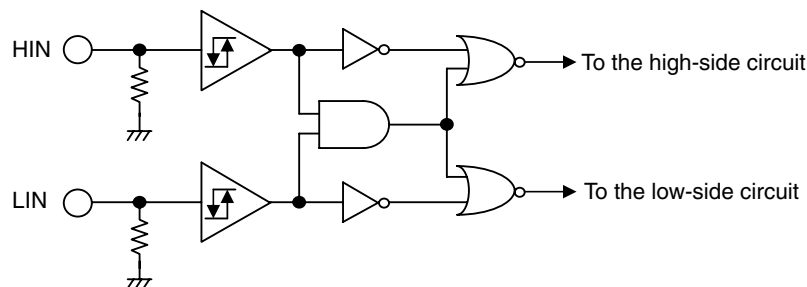

Fig. 5 Circuit for Prevention of Simultaneous Turn-On of High/Low-side Devices
When HIN = LIN = “high” (ON), the logic circuit shown in Fig. 5 works to turn the high-side and low-side outputs to “low” (OFF) thus preventing a short circuit between external power devices (IGBT and power MOSFET).